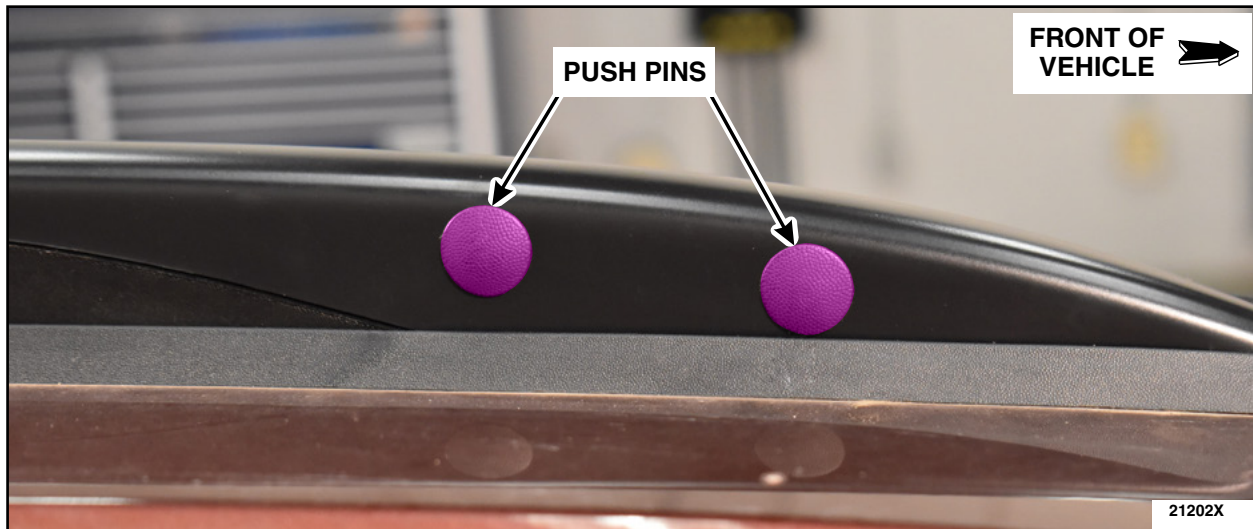

FIGURE 21
10. Remove the painters tape and install the push pin retainers. See Figure 21.